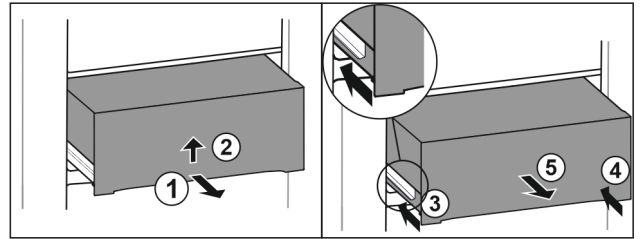

Fig. 33
- ▶ Pull out the drawer halfway. Fig. 33 (1)
- ▶ Lift the drawer from the bottom. Fig. 33 (2)
- ▶ Slide in left rail. Fig. 33 (3)
- ▶ Slide in right rail. Fig. 33 (4)
- ▶ Remove drawer to the front. Fig. 33 (5)